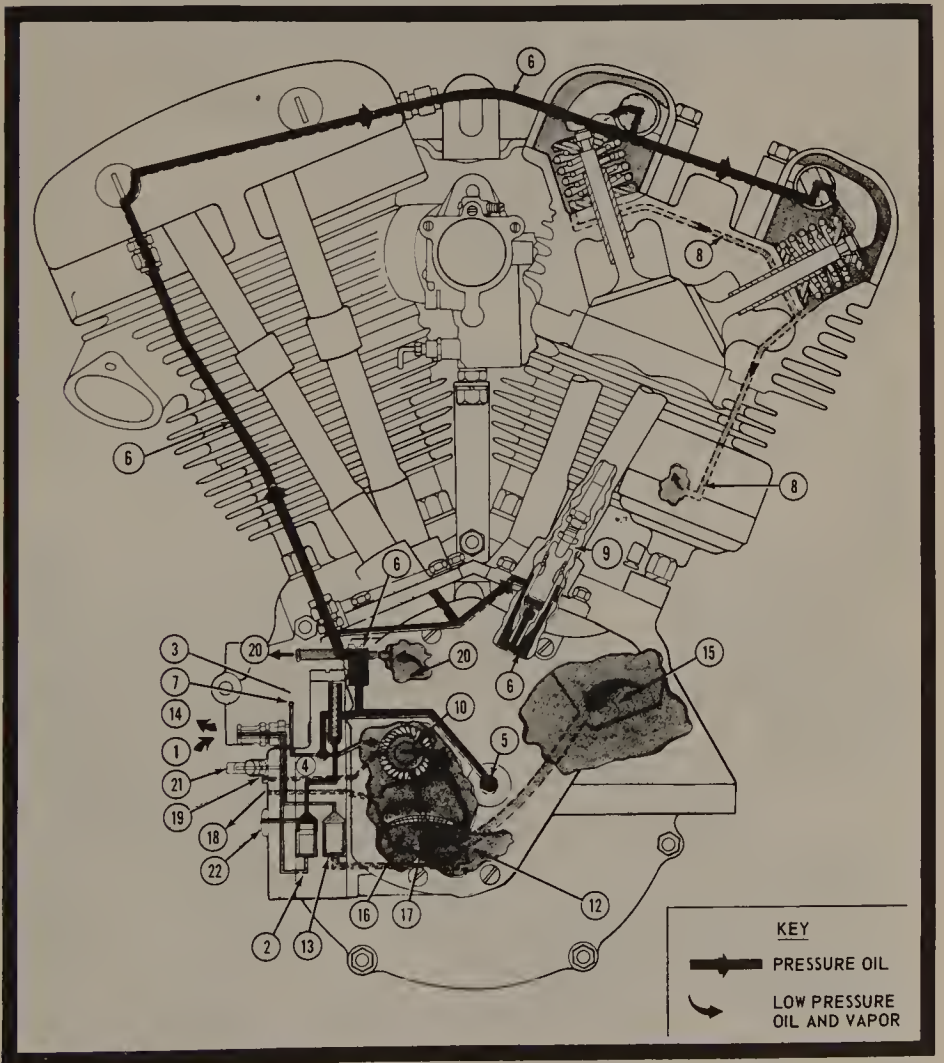

Fig. 1-3. Vee-Type, Twin-Cylinder, 74 Cu. In. Harley-Davidson Engine, Cutaway showing lubrication system. (Courtesy Harley-Davidson.)
for their small industrial plants. The main advantage seems to be compactness. Horizontally-opposed engines are multis with the cylinders 180 degrees apart. A famous example from the automotive world of "pan cake" configuration is the Volkswagen. Some Power Products two-cycles, the Kohler K482 and K662, and the current range of BMW motorcycles, are horizontally opposed (Fig. 1-2). These engines are compact, easy to cool, and have good inherent balance. The vee type is similar, except that the angle between the cylinders is smaller. Most vee's are built with an included angle of 90 degrees between the cylinders, although a few have been as narrow as 60 degrees (Fig. 1-3). A little thought will show that the firing impulses on a twin cylinder vee are uneven (which
Refer again to Fig. 1-3 which shows the oil circuits of a typical Harley-Davidson engine. Note that every friction surface receives oil, either under pressure or by gravity on the return to the crankcase. The Harley uses a dry sump, that is, the crankcase is dry and oil is stored in an external tank (15). The oil pump is really two pumps in one; one side pressurizes the engine and the other side evacuates the crankcase. The pump which discharges the crankcase has a greater capacity than the pressure pump; this keeps the case from flooding. Dry-sump lubrication has certain advantages for high performance applications. Since the crankcase is dry, there can be no power loss due to "windage." The external tank, mounted well away from the engine block, tends to act also as an oil cooler. And a dry-sump engine can be made with a low center of gravity, which aids handling. The price is additional complexity and external oil lines which are subject to leakage.